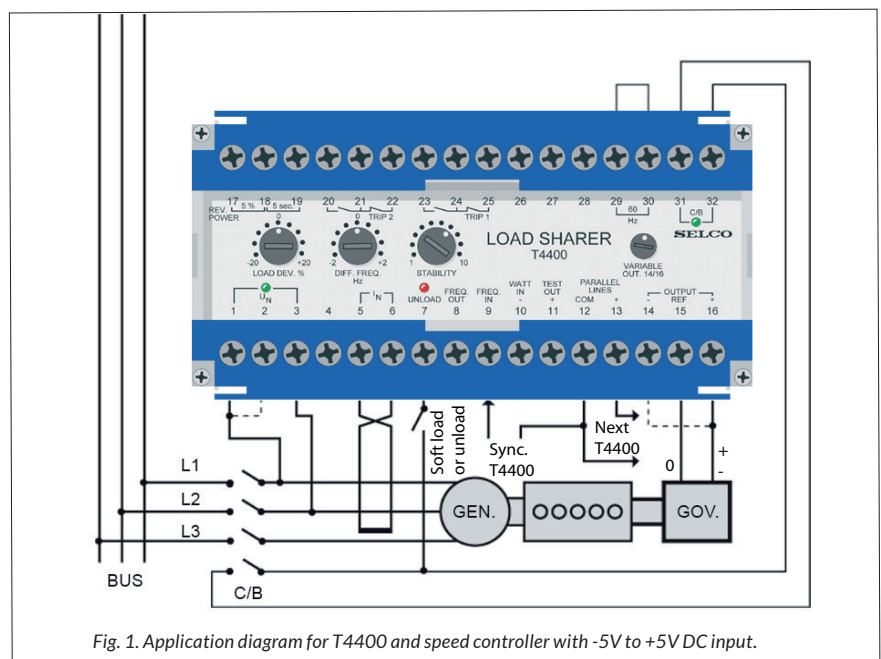

Fig. 1. Application diagram for T4400 and speed controller with -5V to +5V DC input.
Fig. 1 shows how to connect to most Woodward and Heinzmann speed controllers. For connection to other makes please refer to the section "Interfacing" on the following page.
4. If the deviation from other generators is approximately two times, it is likely that the current on terminals 5 and 6 is measured in one of the phases supplying the T4400. The current must be measured in the phase that is not supplying the unit (see the application diagram in fig. 1).